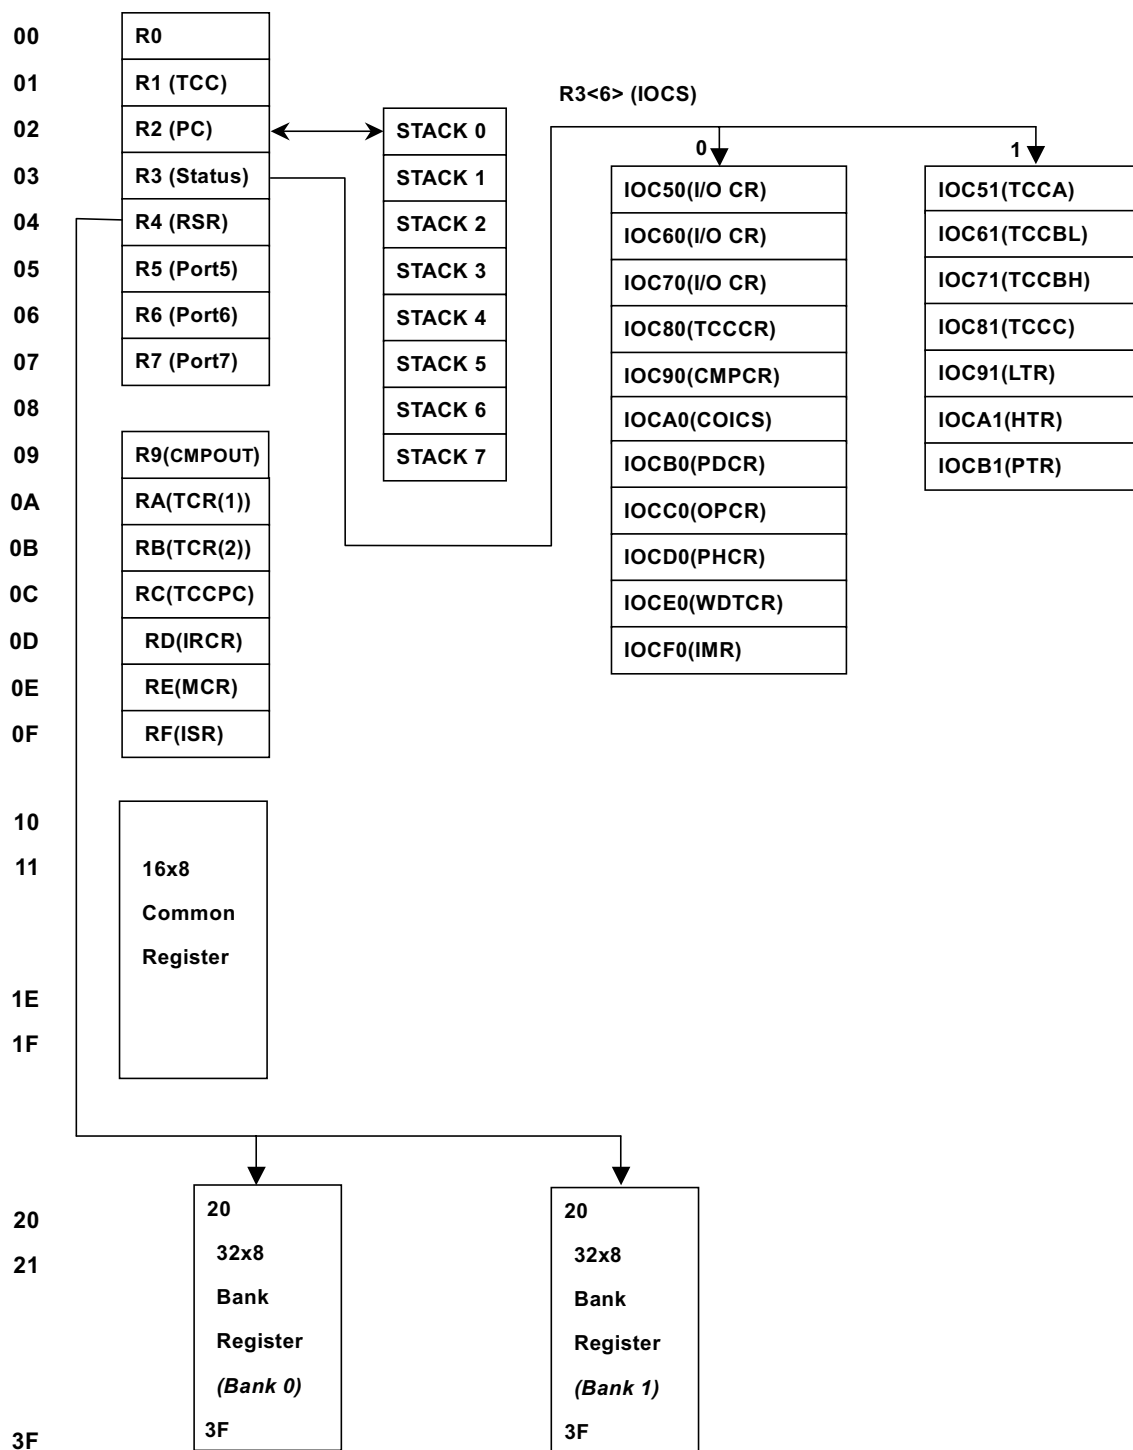

Fig. 5 Data memory configuration
- See the configuration of the data memory in Fig. 5.